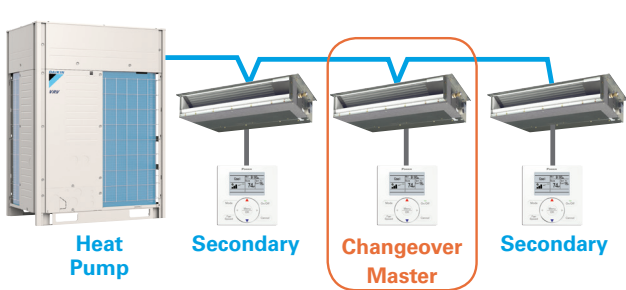

Fig 2. Heat Pump System
- 3.1. When the VRV contractor has commissioned a Heat Pump system, an indoor unit can be nominated as the changeover master. This allows the nominated unit to change the mode of operation for all units connected to the same outdoor unit. (See Figure 2)